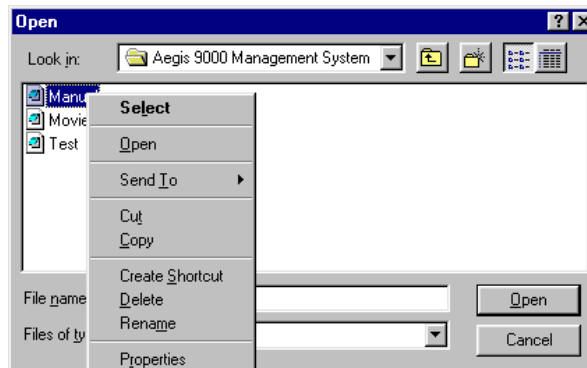

Figure 5.11
Step 2 Click on the file name you want to delete (i.e. Manual.TNT) and click the right sided button on your mouse. You will see figure 5.11.
Step 3 Click on the file name you want to delete (i.e.Manual.TMZ) and do the right click and you will see figure 5.11.
Step 3 Click on the file name you want to delete (i.e.Manual.ACD) and do the right click and you will see figure 5.11.